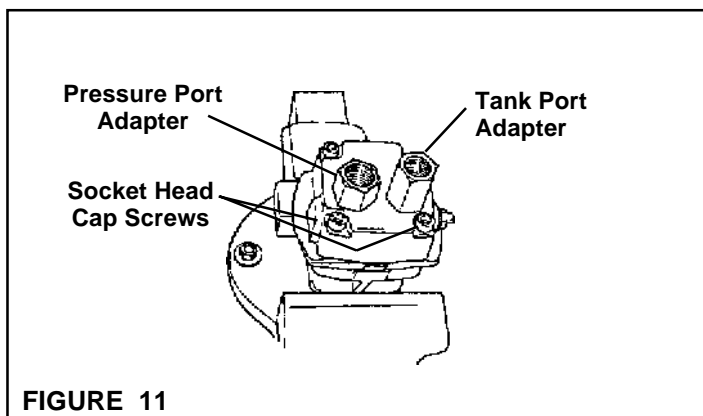

FIGURE 11
1. Place the Hydraulic Motor in a vise (See Figure 11).
2. Using a 1-1/16" Box wrench, remove the Tank Port Adapter and Pressure Port Adapter (See Figure 11).
3. Using a 1/4" Hex wrench, remove the Socket Head Cap Screws from the Motor End Plate (See Figure 11).